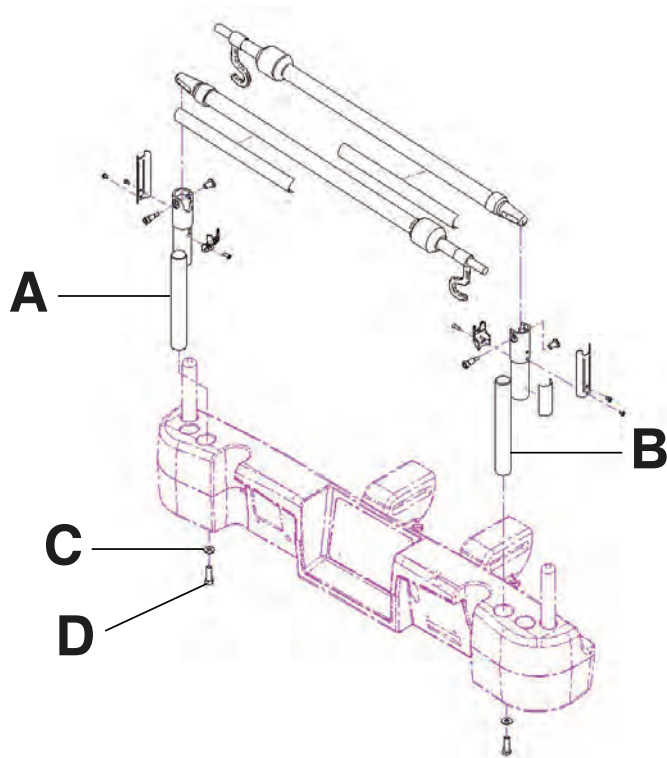

Figure 1-121: Dual two stage IV pole
1. Using a 3/8 in. drive ratchet and a 1/2 in. socket, install one washer (C) and one bolt (D) to secure the IV pole into the socket at the head end of the product (A) (Figure 1-121 on page 1-105).
2. Using a 3/8 in. drive ratchet and a 1/2 in. socket, install one washer (C) and one bolt (D) to secure the IV pole support into the socket at the head end of the product (B) (Figure 1-121 on page 1-105).